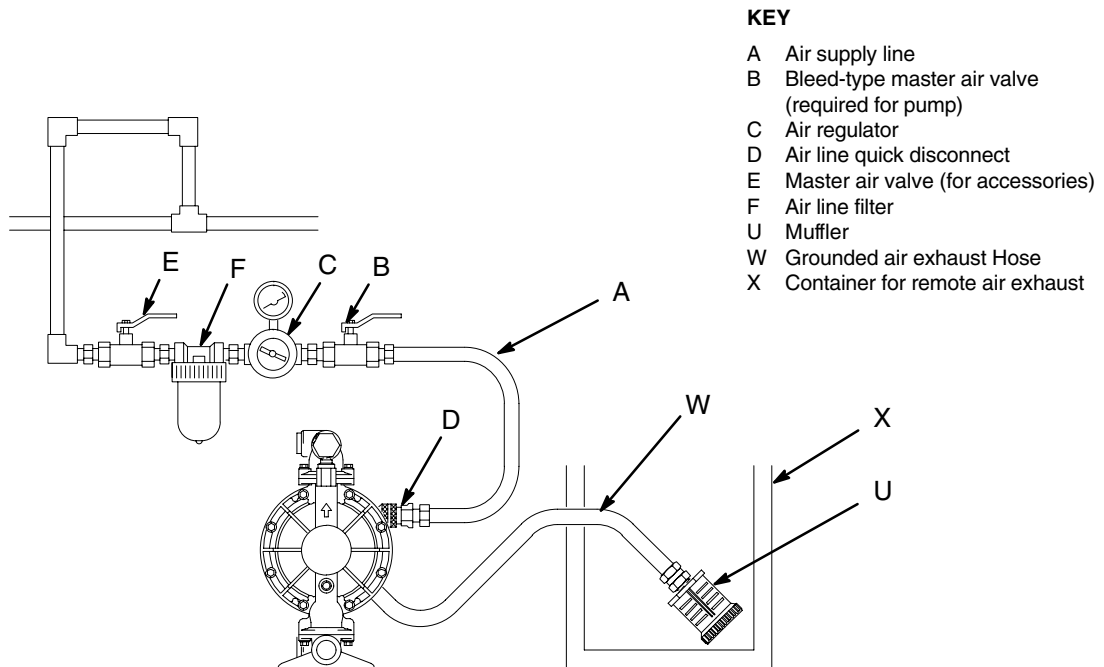

Fig. 6
Diaphragm failure will cause the fluid being pumped to exhaust with the air. Place an appropriate container at the end of the air exhaust line to catch the fluid. See Fig. 6.
1. Remove the muffler (U) from the pump air exhaust port.
2. Install a grounded air exhaust hose (W) and connect the muffler (U) to the other end of the hose. The minimum size for the air exhaust hose is 3/4 in. (19 mm) ID. If a hose longer than 15 ft (4.57 m) is required, use a larger diameter hose. Avoid sharp bends or kinks in the hose.
3. Place a container (X) at the end of the air exhaust line to catch fluid in case a diaphragm ruptures. See Fig. 6. Locate the container away from all sources of ignition, including pilot lights and waste materials. If the diaphragm ruptures, the fluid being pumped will exhaust with the air.